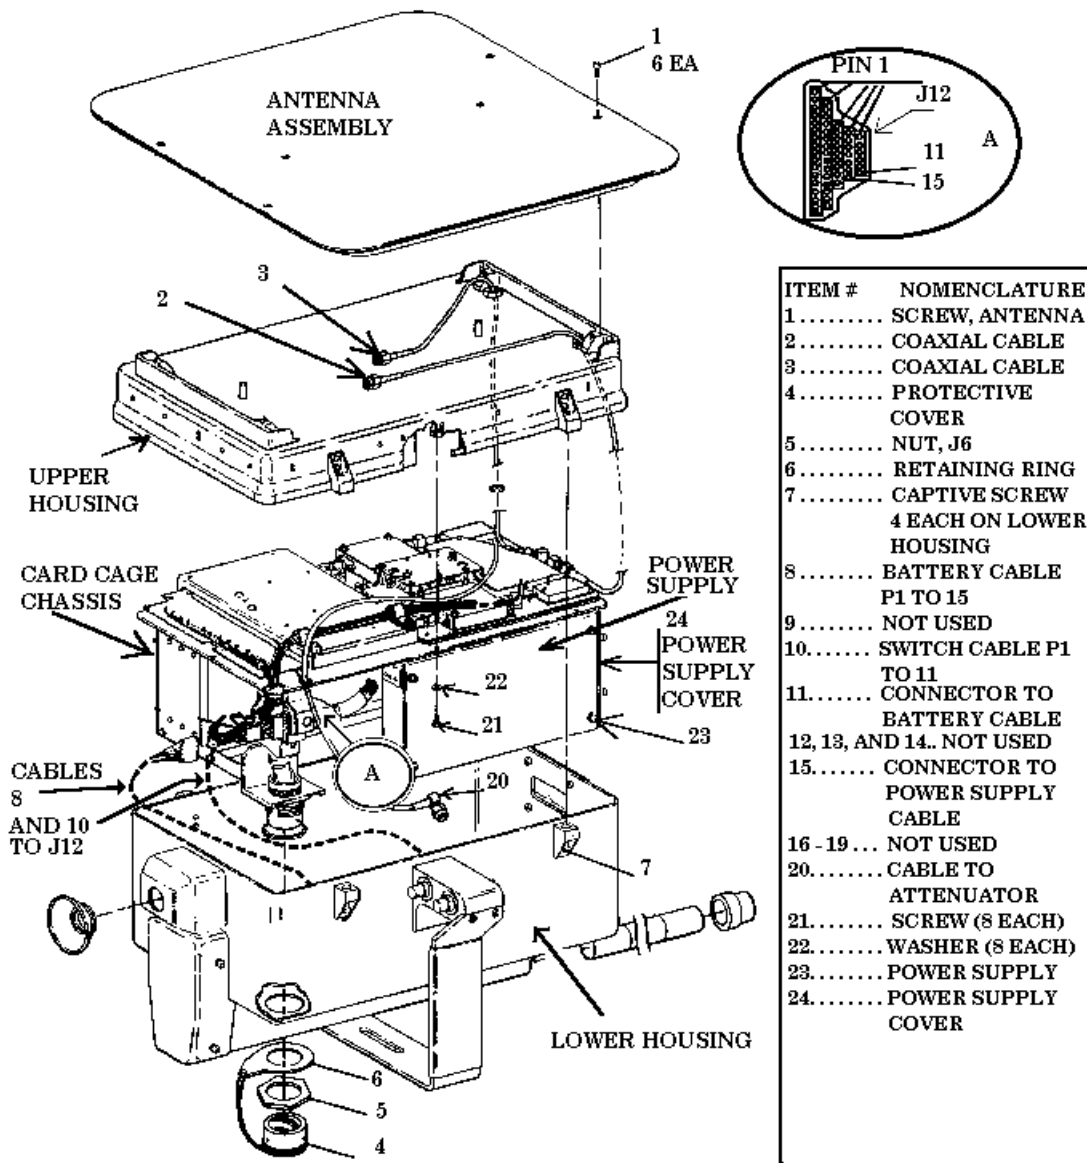

Figure 4. Disassembly blowout.
Disassembly instructions and items in parenthesis below are used in conjunction with test set disassembly blowout (fig. 4).
- (1) Remove six screws (1) (fig. 4).
- (2) Gently lift antenna and disconnect cables (2) and (3) (fig. 4).
- (1) Turn TI upside down and remove cover (4), nut (5), and retaining ring (6) (fig. 4).
- (2) Loosen four screws (7) (fig. 4) and gently lift and place lower housing beside TI with handle side down.
- (3) Disconnect switch cable P1 (10) (fig. 4) from connector (11) (fig. 4, inset A).
Look at connector 11 (fig. 4, inset A) and P1 cable end. Notice the arrangement of pins and guide pins for future reconnections.
- (4) Disconnect battery cable P1 (8) (fig. 4) from connector J12 (15) (fig. 4, inset A).
- (5) Disconnect cable 20 (fig. 4) from attenuator on lower housing.
- (6) Remove lower housing away from card cage chassis and lower housing.
- (1) Place upper housing on bench so that card cage chassis lip is exposed.
- (2) Remove eight screws (21) and washers (22) (fig. 4) located on lip of card cage chassis.
Use extreme care when lifting upper housing away from card cage chassis to avoid damage to coaxial cables (2) and (3) (fig. 4).
- (3) Turn TI on right side and separate card cage chassis and upper housing.
Slide cables (2) and (3) (fig. 4) part way through seals while applying a slight pressure.
Excess bending of cables (2) and (3) (fig. 4) may cause damage to cables and cause test set malfunction.
- (4) Disconnect cables (2) and (3) (fig. 4) from card cage chassis connectors when sufficient clearance is made.
- (5) Remove upper housing from card cage chassis.
**i.** Install SMA male to female right angle connectors to (2) and (3) (fig. 4) card cage chassis connectors.
Card cage chassis connector (2) (fig. 4) will be referred to as DIFF and (3) (fig. 4) will be referred to as SUM through the rest of this procedure.
**l.** Connect one end of power supply extender cable (part of transponder test set kit) to lower housing P1 cable (8) (fig. 4) (this cable was disconnected in **g**(4) above) and the other end of power supply extender cable to connector (11) (fig. 4).
**m.** Arrange lower housing for best connection of P1 cable (10) (fig. 4) to connector J12 (15) (fig. 4, inset A) and reconnect cable (20) (fig. 4) to attenuator on lower housing.